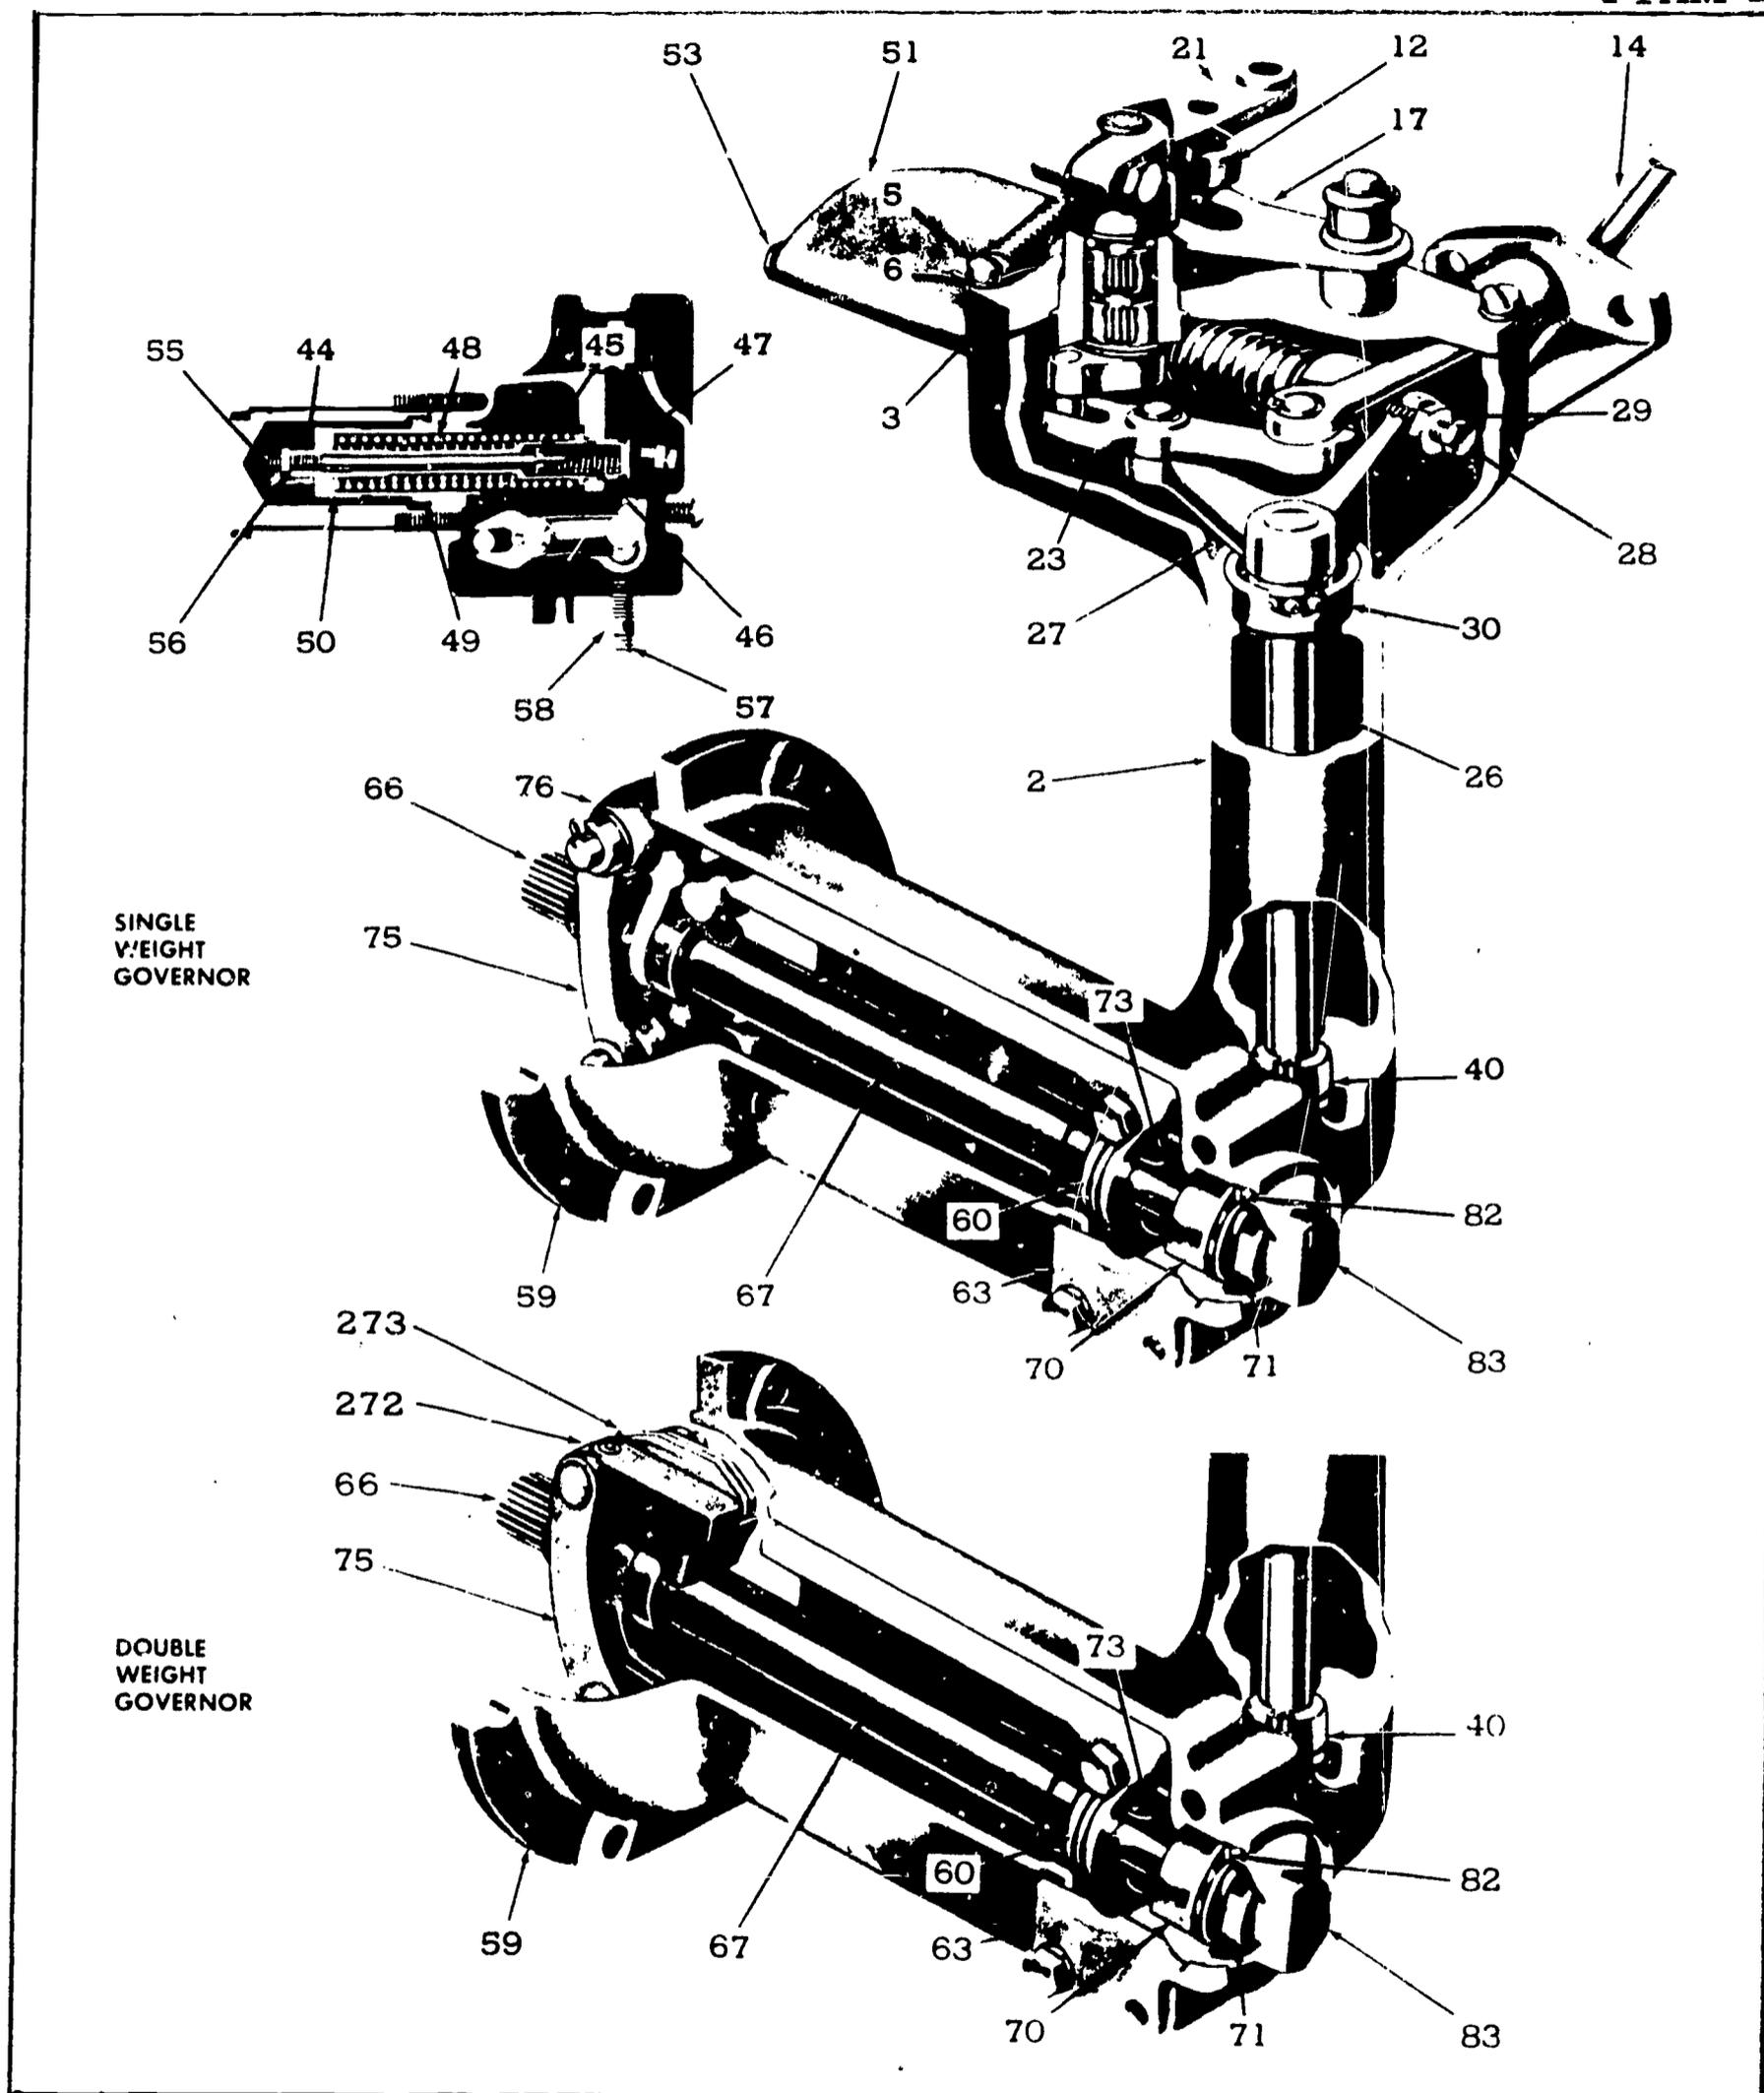

Fig. 3 Limiting speed mechanical governors (Series 71).
**SINGLE WEIGHT GOVERNOR IN-LINE 71** -- The centrifugal force of the revolving governor weights (76), see Figure 3, is converted into linear motion which is transmitted through the riser (67) and operating shaft (26) to the operating shaft lever (27). One end of lever (27) operates against the high and low speed springs (48 and 46) through the spring cap (47), while the other end provides a moving fulcrum on which the differential lever (23) pivots.
DOUBLE WEIGHT GOVERNOR -- IN-LINE 71 AND V-71 SERIES -- The centrifugal force of the revolving governor weights (272 and 273), see Figure 3, is converted into linear motion which is transmitted through the riser (67) and operating shaft (26) to the operating shaft lever (27). One end of lever (27) operates against the high and low-speed springs (48 and 46) through the spring cap (47), while the other end provides a moving fulcrum on which the differential lever (23) pivots.